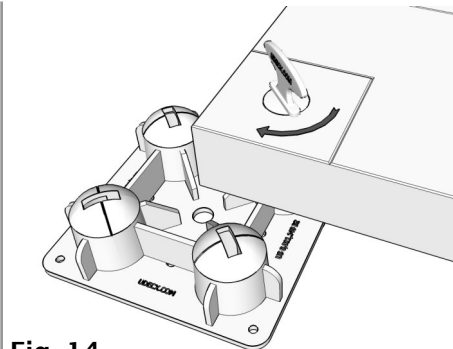

Fig. 14
Rotate each of the Cam Locks (C) clockwise 90 degrees using the Lock Tool (E). (Fig. 14 & 15)
**NOTE:** the Cam Lock (C) will stop and lock after a 90 degree rotation.)